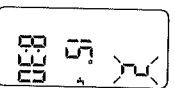

Fig. 17
- iii) Press the **NEXT** button to advance to the next event (Fig. 17).